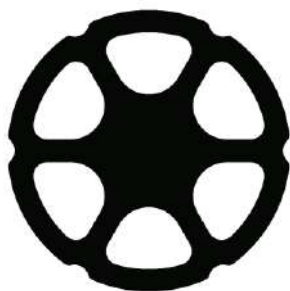

Fig. 7: Chemraz® valve, optional
- CHEMRAZ® has six grooves in its outer contour (see Fig. 7)